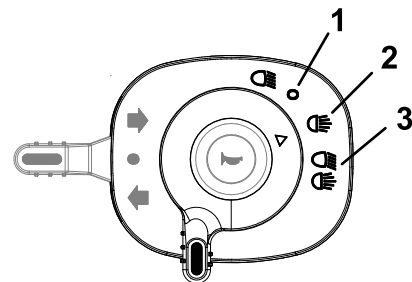

Figure 64
2. Rotate the light switch (Figure 63 and Figure 64) to the following positions: